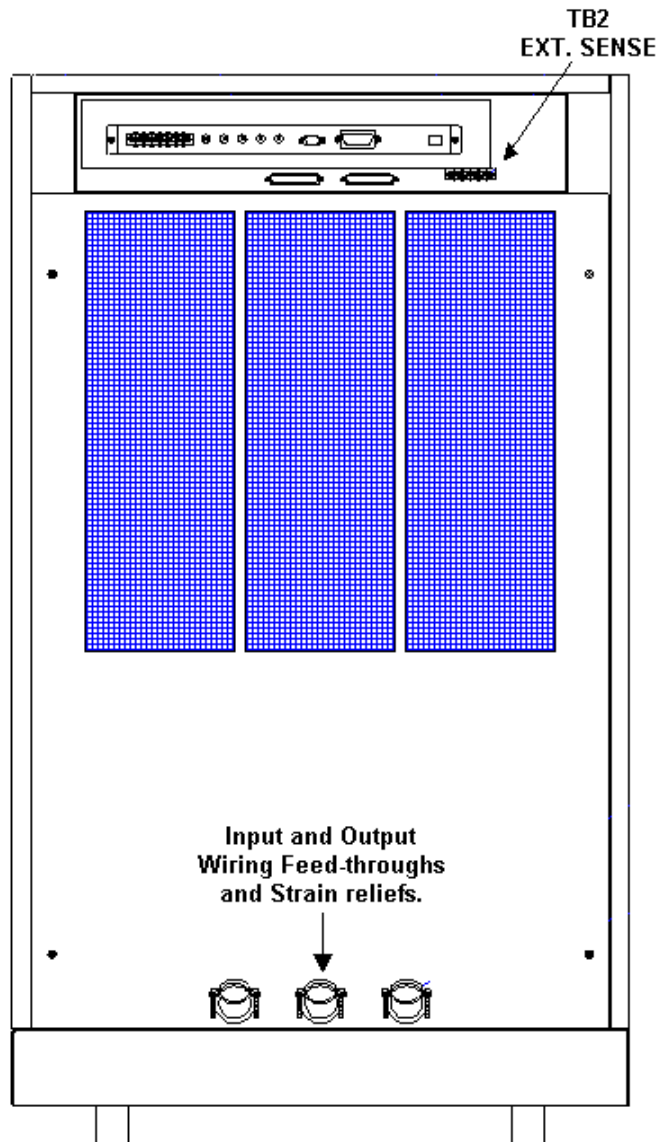
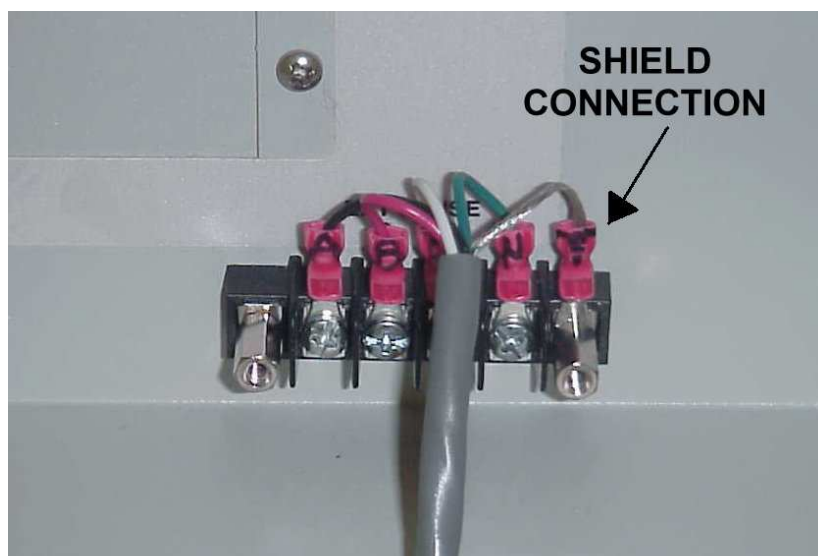

Figure 3-4: Rear Panel
Figure 3-5: External sense cable shield connection to chassis ground
No wiring for AC input connections is provided with the MX Series and must be provided by the end user or installer. Input wiring should be entered through the right hand side (when facing the back of the MX cabinet, see Figure 3-4) wire access opening located at the rear bottom of the MX chassis. A wire channel (marked as [2] in figure below) is provided below the input transformer to allow the input wiring to be routed to the front of the unit where the connections are to be made.
The external sense inputs allow the power system output voltages to be monitored directly at the load and must be connected at TB2 when the sense is programmed for external. The external sense input does not have to be connected when Internal Sense is programmed. The external sense wires are to be connected to TB2 on the rear panel and should be run using a twisted shielded cable. See Figure 3-4 for location of TB2 and Figure 3-5 for shield connection detail.
**Note:** *For External Sense connection, a shielded cable MUST be used with the shield connected to chassis ground at the Ext. Sense connector. (See Figure 3-5).*